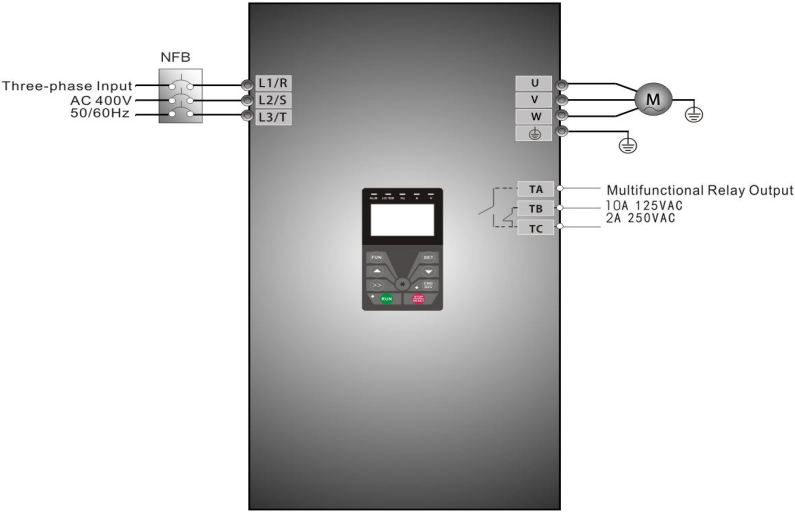

Fig4-1 Wiring Diagram 1
- (1) Connect the wires in accordance with Figure 4-1. After having checked the wiring successfully, switch on the air switch, and power on the inverter.
- (2) Press the “Fun” key, to enter the programming menu.
- (3) Measure the parameters of the motor
- (1) Connect the wires in accordance with Figure 4-1. After having checked the wiring successfully, switch on the air switch, and power on the inverter;
- (3) Study the parameters of the motor: the operation process is the same as that of example 1.
- (4) Set functional parameters of the inverter: